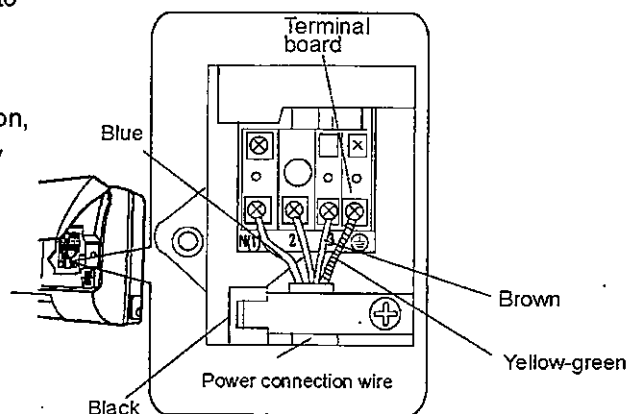

Fig. 8
4. Connect the blue wire of power connection cord to the terminal on "N(1)", the black one to "2", the brown one to "3", the yellow-green one (earth wire) to "⊕" (Fig. 8)